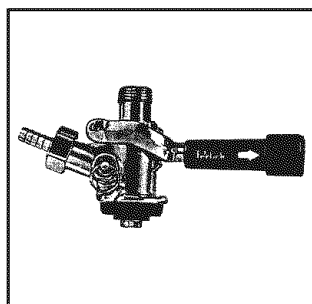

Fig. 9
NOTE: The keg stand is required when using 30 Liter (1/4 barrel) "pony" style kegs only. To install the beer keg and stand inside the refrigerator cabinet, brace your knees behind the keg stand and grasp the keg stand handles. Lift the front of the keg stand just enough so that the front edge of the stand is resting on the front edge of the refrigerator cabinet. **See Fig. 9** Grasp the keg stand (front) handles and "carefully" slide the keg stand all the way into the refrigerator cabinet.
17. Making the connection between the Keg Coupler and Beer Keg: Before making (opening) connection between the keg coupler and beer keg, make sure the beer tower faucet is in the closed position. (faucet handle straight back) To engage the tank connection, pull the keg coupler handle out and push down until it locks into position. Listen for positive "click" of the pull handle in the final downward position. **See Fig. 9**
- Pull keg coupler handle out and downward until it locks into position. **See Fig. 9** This activates both the beer and (CO₂) pressure line.